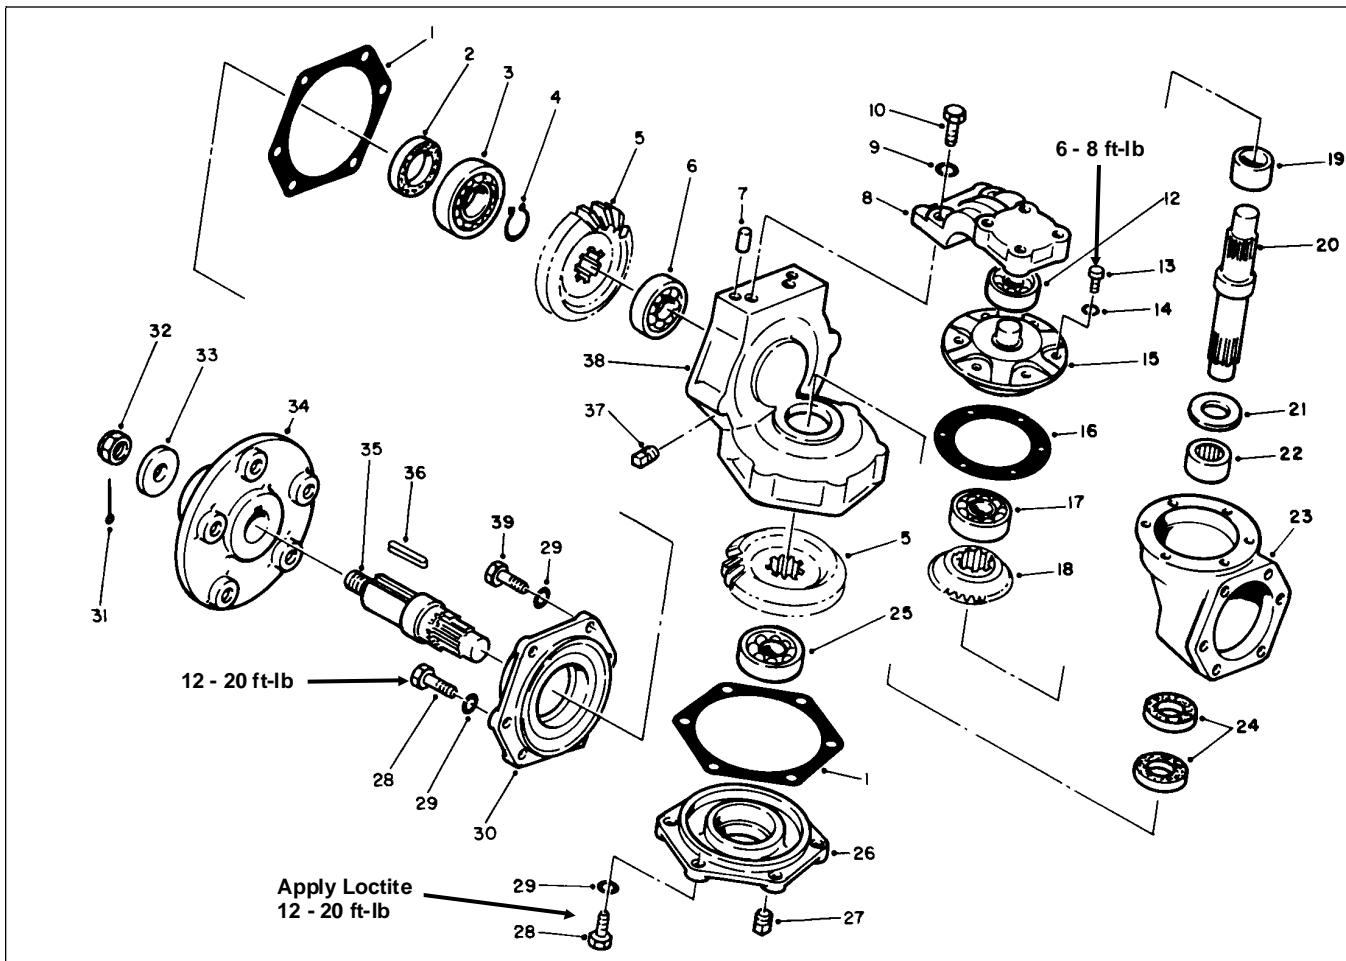

Figure 13
4. Disassemble knuckle assembly (Fig. 13):
- C. Adjust tooth contact of bevel gear (Item 6) to pinion (Item 30). Use shims (Item 29) to make good contact with light load between bevel gear and pinion (Fig. 13).
3. Assemble knuckle assembly (Fig. 13):